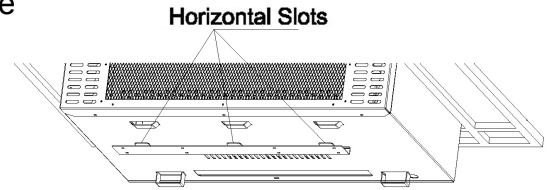

Figure 16 – Mounting Heater Onto Mounting Bracket
1. Locate three horizontal slots on back panel of heater (see Figure 16).